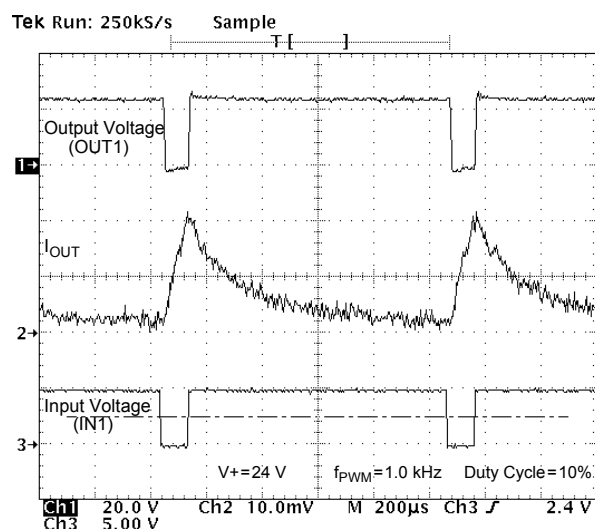

Figure 10. Output Voltage and Current vs. Input Voltage at V+ = 24 V, PMW Frequency of 1.0 kHz, and Duty Cycle of 10%
20. The outputs can be PWM controlled from an external source. This is typically done by holding one input high while applying a PWM pulse train to the other input. The maximum PWM frequency obtainable is a compromise between switching losses and switching frequency. Refer to Typical Switching Waveforms, Figures 10 through 17, pp. 11–12.